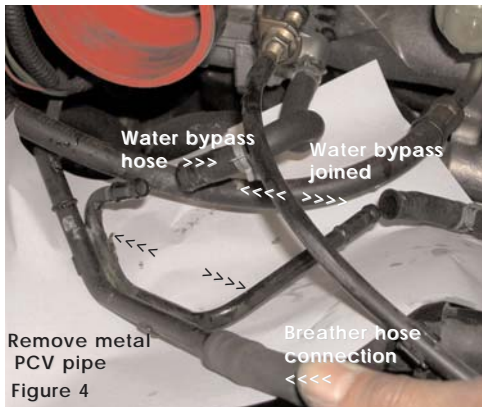

Figure 4
- 3- Remove the PCV pipe connecting the water bypass lines and vacuum line. (See fig. 4)